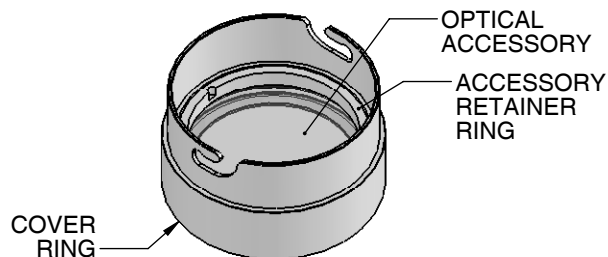

Figure 7
14. Install desired OPTICAL ACCESSORY pieces into the COVER RING and re-thread the ACCESSORY RETAINER RING firmly. See Fig. 7.
*The COVER RING can accommodate three (3) accessories without the ACCESSORY RETAINER RING or two (2) pieces with it.